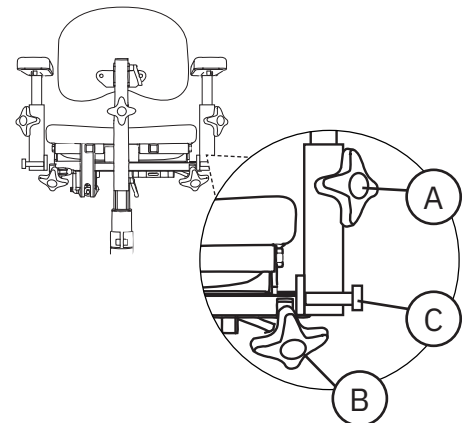

Figure 5.14. Foldable armrests.
Foldable armrests have adjustable height (A) and width (B) and can be folded to the rear (C) (see Figure 5.14).